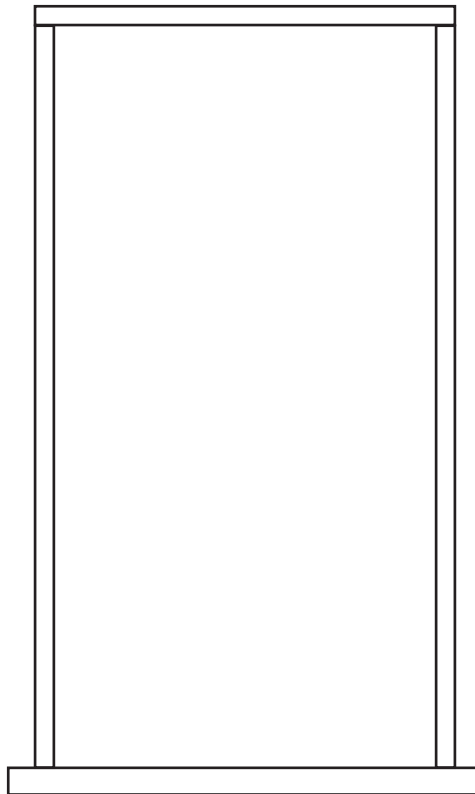

Fig. 2.1
- 2 Fig. 2.1 shows a wooden door frame before it is positioned in a building.
Draw on Fig. 2.1 to show how triangulation can be used to prevent the frame from being distorted while it is being installed in the building.